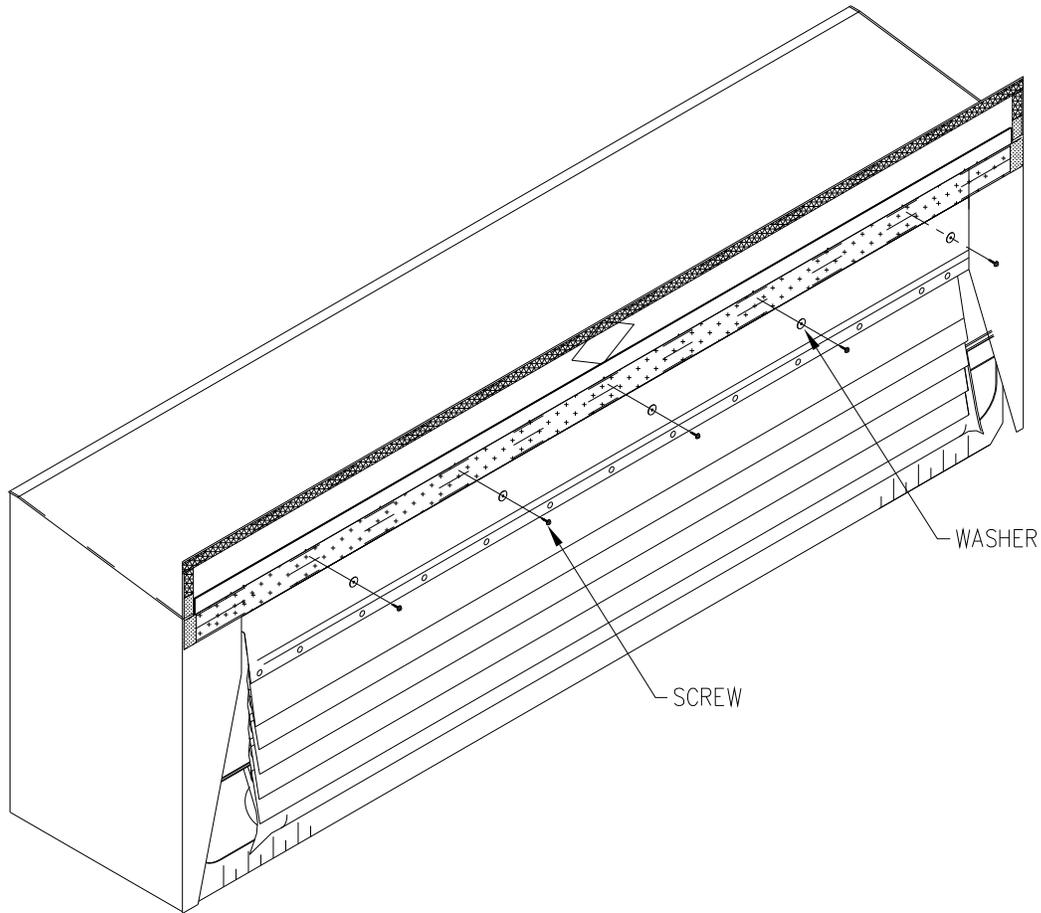

FIGURE 23
8. Attach the impact plate assembly to the front bar in (5) locations using the self drill/tapping screws and panel washers provided. Start at the center, then 24" and 48" in both directions, approximately 3/4" down from velcro edge on pocket. The screws should land just above the middle of the front bar. There are small fabric tabs located above the velcro edge on the impact plate assembly indicating the fastener locations. (See Figures 23 & 24)